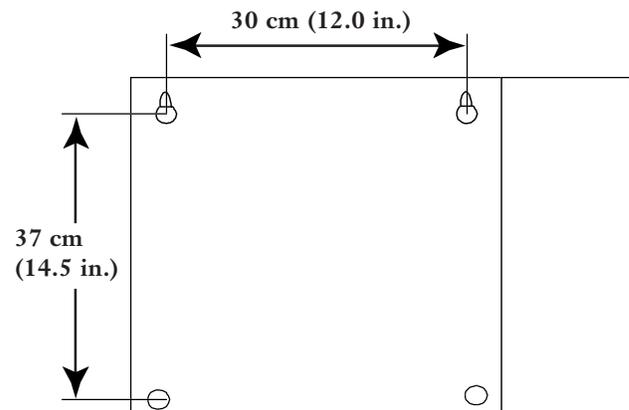

Figure 2
- b) Mark the screw locations on the wall using the back of the WDC-006 unit or the template packaged with the unit (Figure 2).